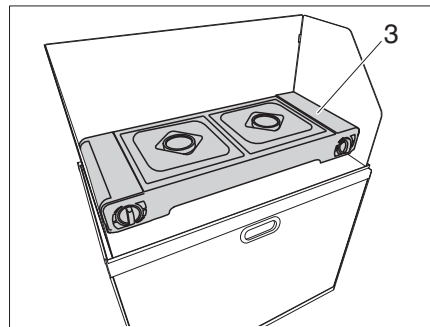

Fig. 25 Setting up the 2-burner cooker
- Remove the 2-burner cooker (Fig. 25,3) from the Campbox and setup in the wind guard.